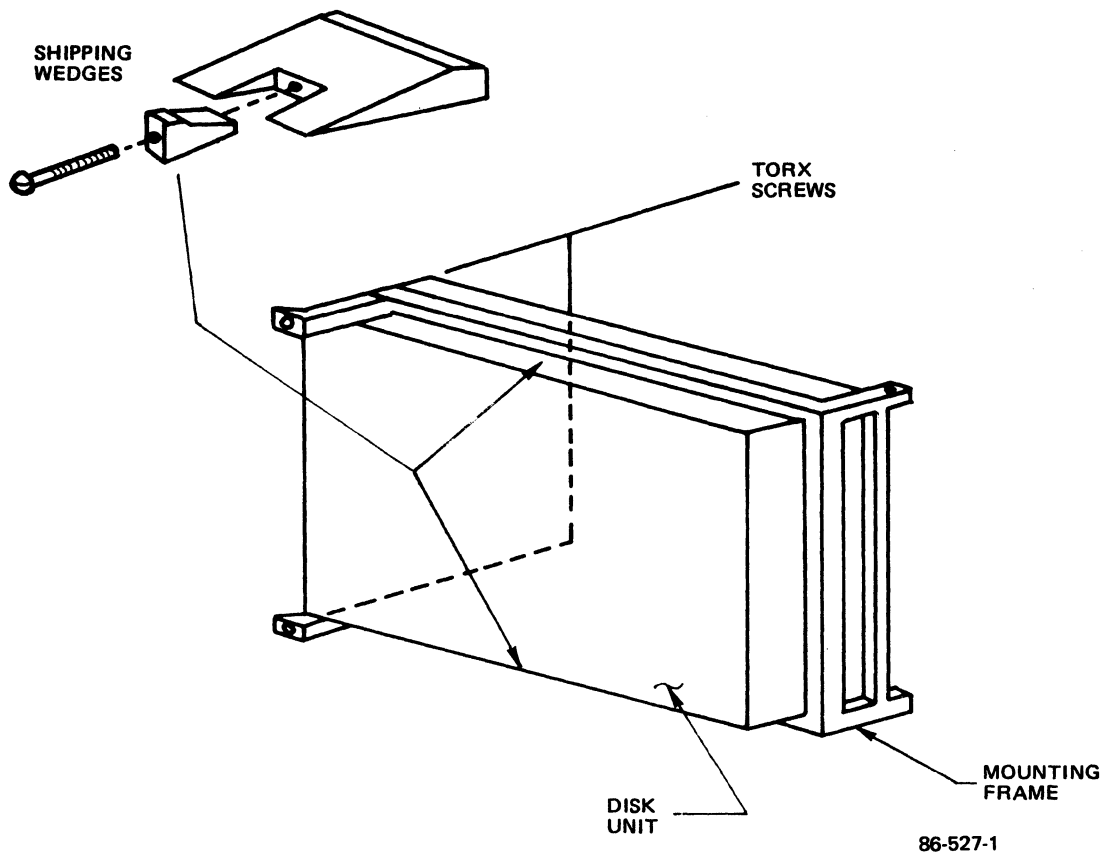

Figure 2-3. Disk Unit Mounting Frame
4. To remove shipping wedges from between the disk unit mounting frame and the disk unit, turn the screw on the wedge counterclockwise until the screw and both wedge pieces can be removed as shown in Figure 2-3 on the adjacent page. Note that the wedge can be removed without removing the two TORX screws that secure the frame to the cabinet.